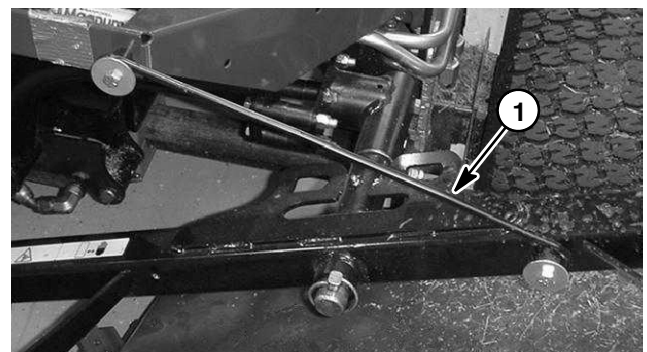

Figure 9
- A. On the front cutting units, slide thrust washer and then cutting unit carrier frame onto pivot shaft. Note: front right and left carrier frames are identical except for the location of the service latch rod (Fig. 9).